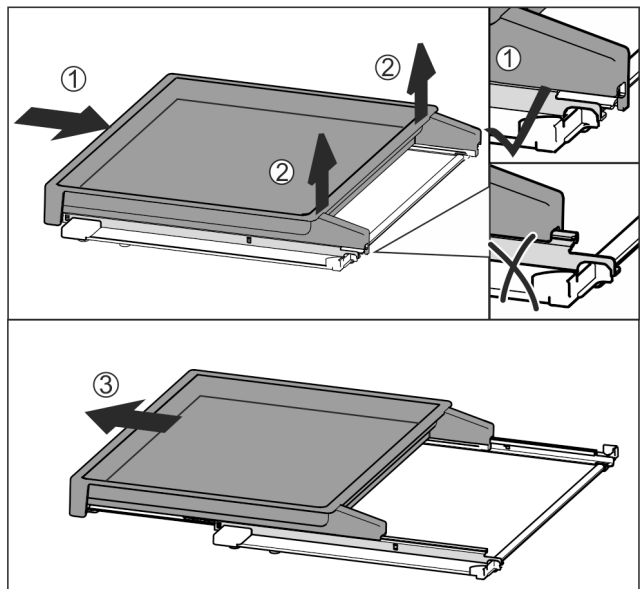

Fig. 43
- ▶ Slide the pull-out board all the way in Fig. 43 (1).
- ▶ Release the clips at the back Fig. 43 (2).
- ▶ Remove the pull-out board from the front Fig. 43 (3).